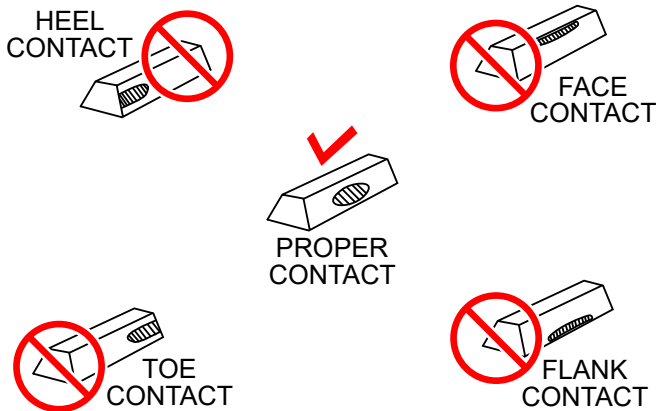

Figure 49. Gear Teeth Alignment
3. If the gear teeth are not contacting properly (Figure 49), adjust the pillow block to correct the problem.